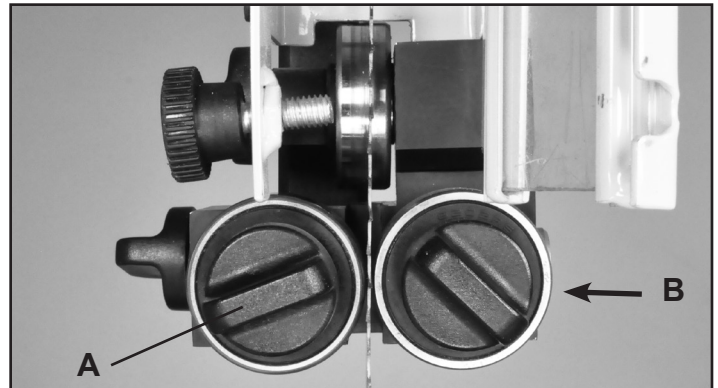

FIGURE 7
1. Position the right and left roller guides relatively close to the blade. First, loosen their front Lock Handles (Fig. 7, A). The Guide Shafts that hold the guide bearings are spring loaded! To move the guides towards the blade, simply push the ends of the guide shafts (B), or use the front lock handles to pull the guides towards the blade. Lock the guides in place. Figure 7.